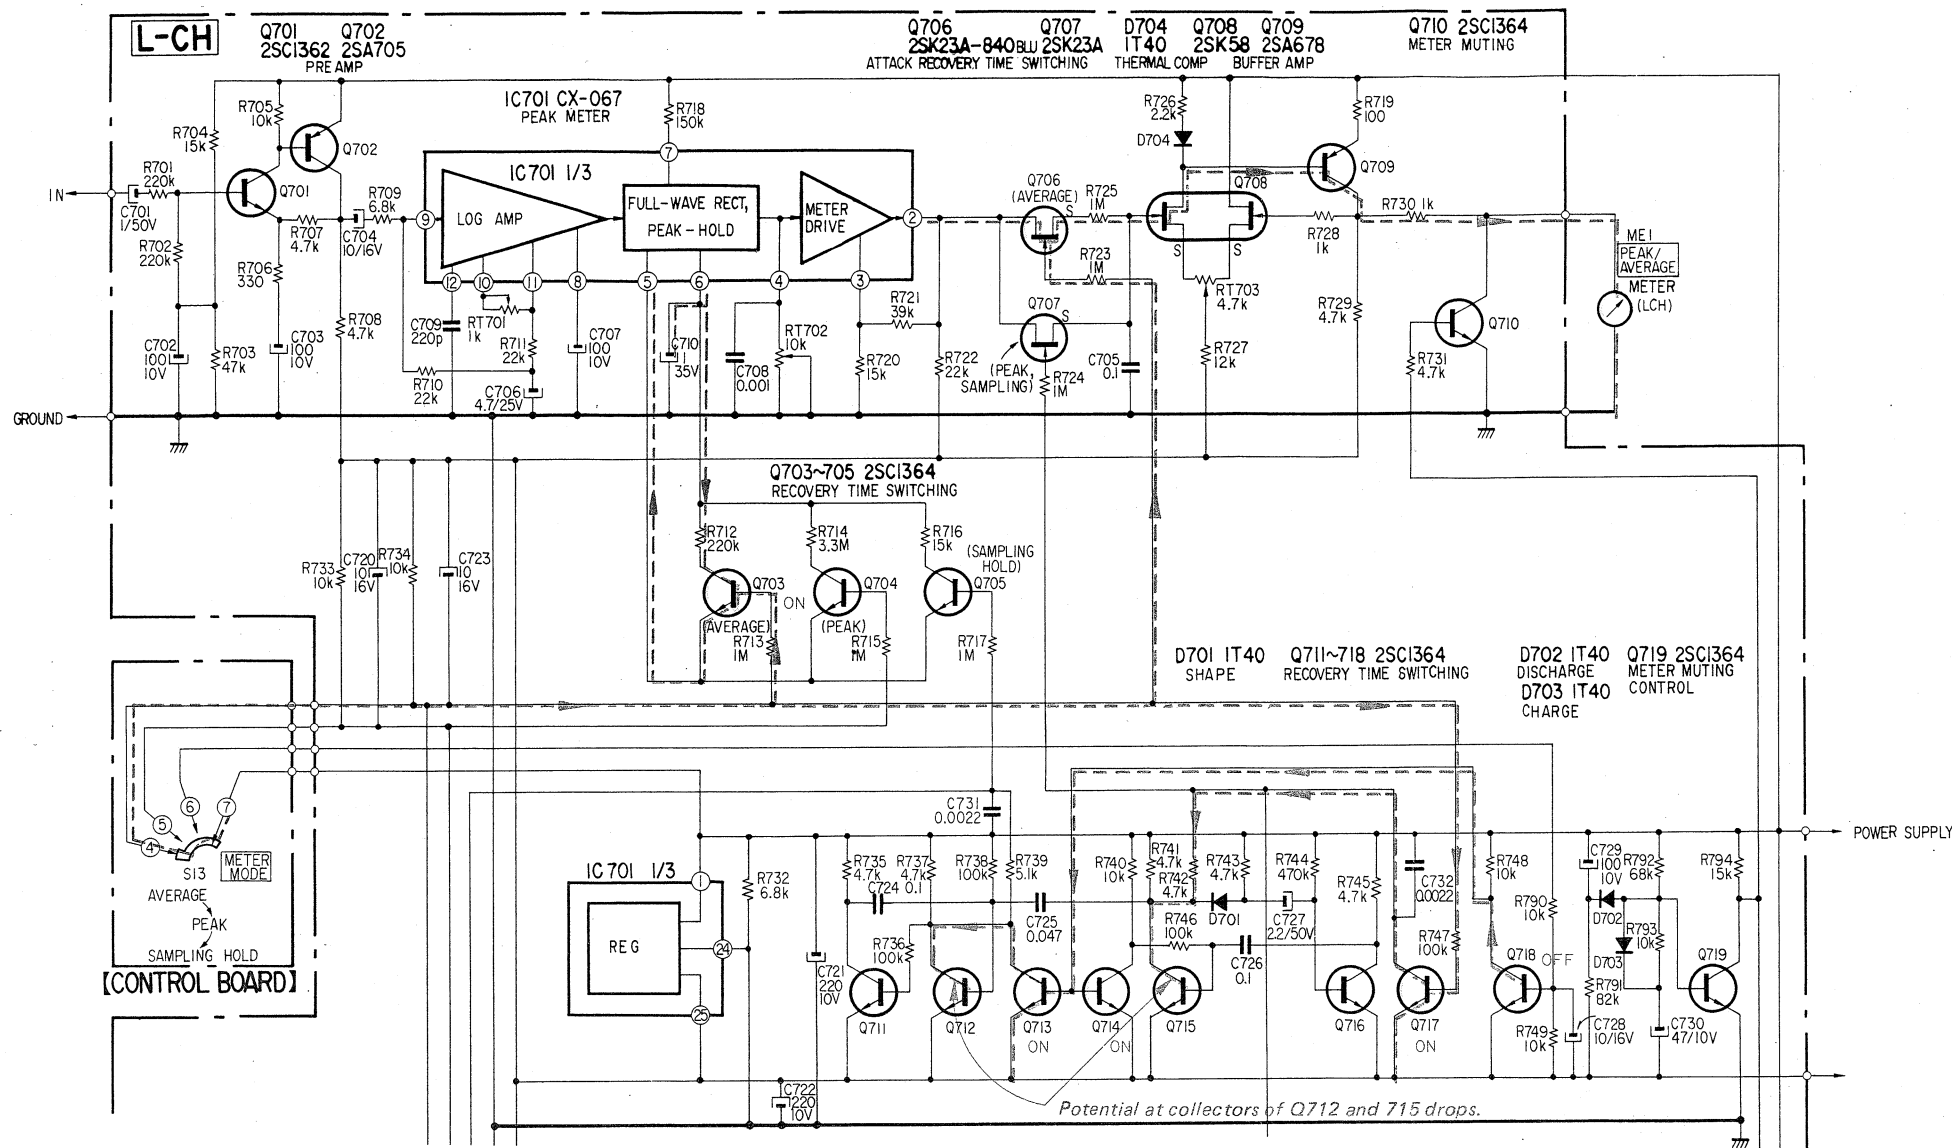
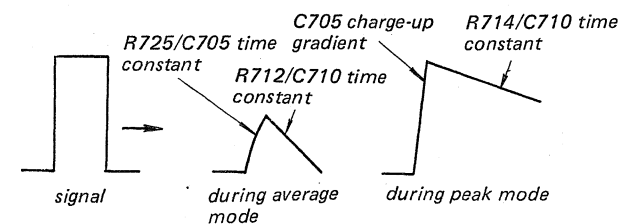
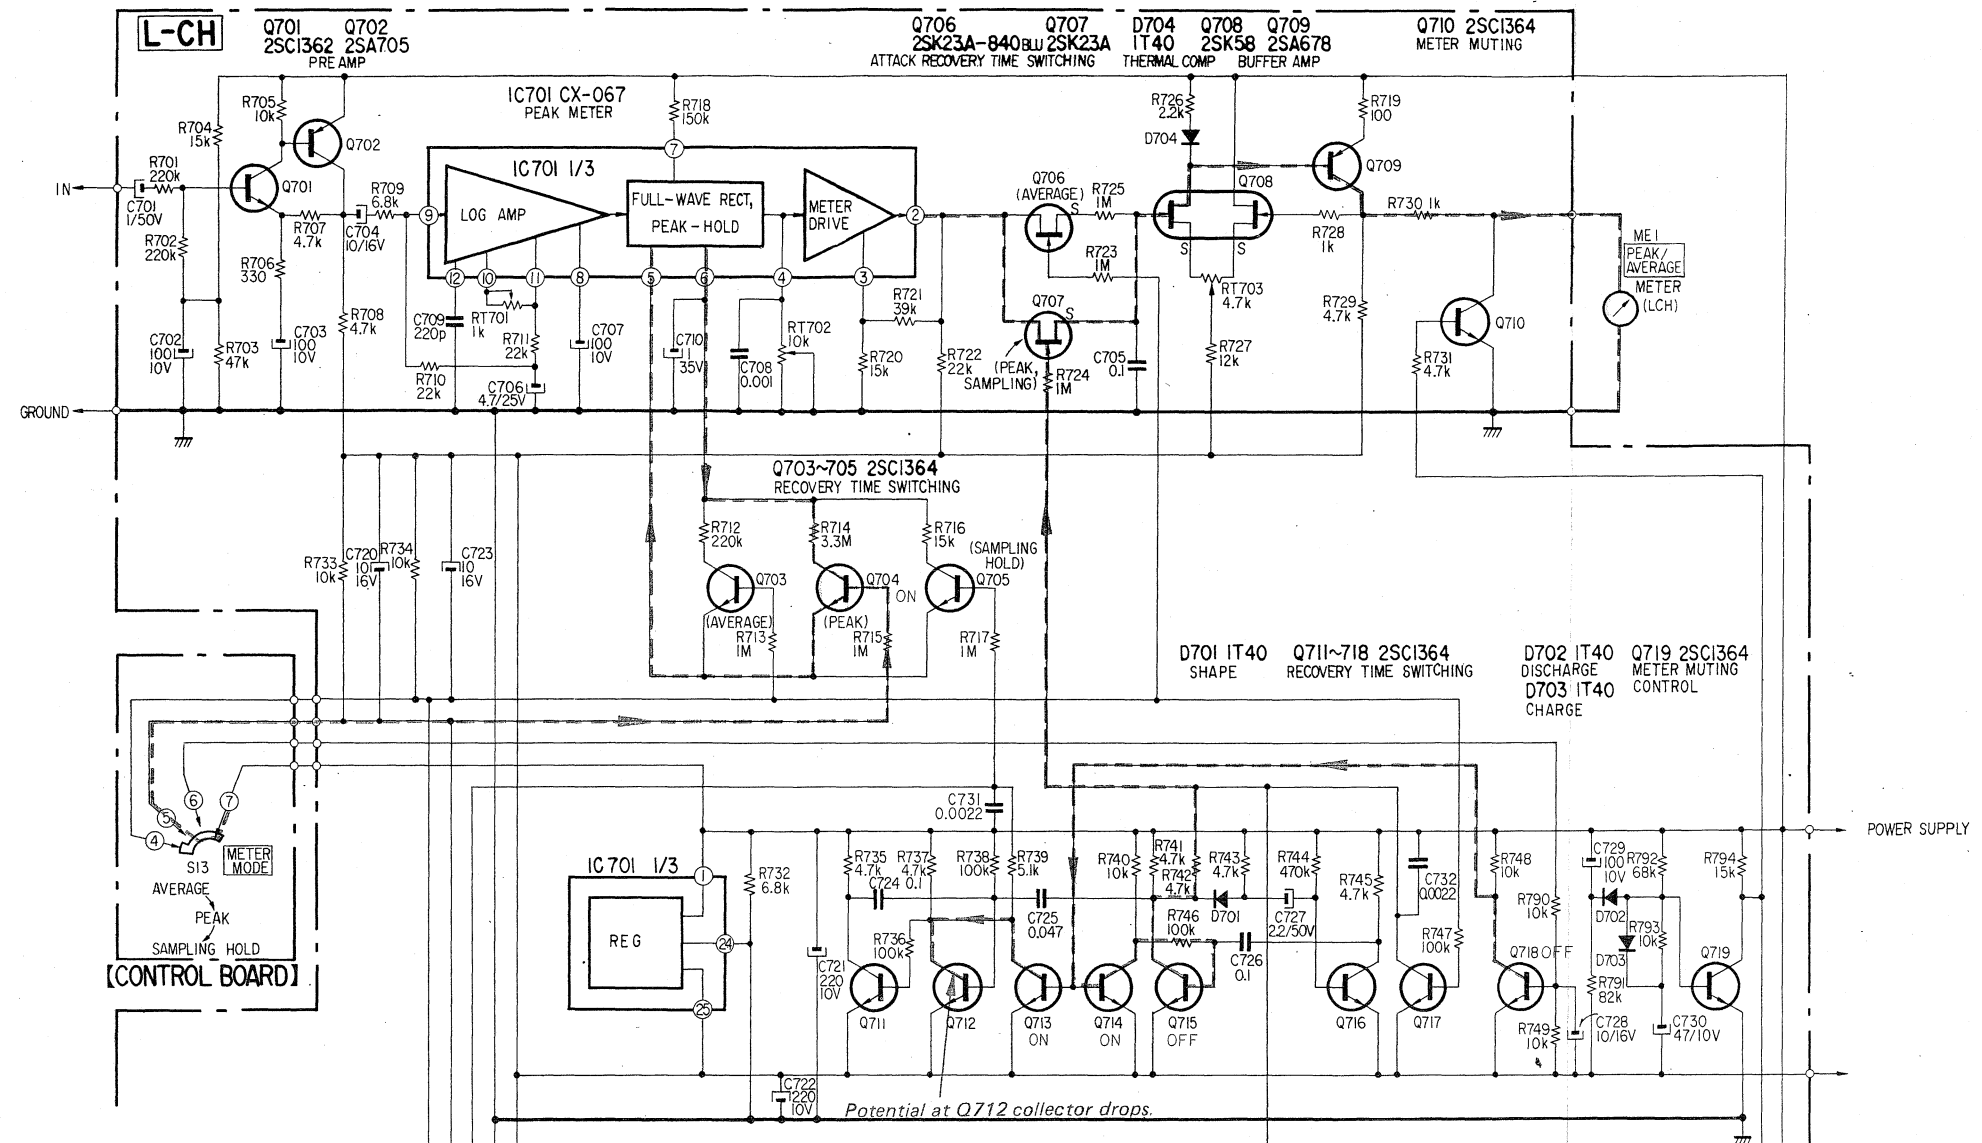

Fig. 1
Fig. 3
Fig. 4
1. Preamplifier Circuit (Fig. 1)
2. IC701 (CX-067) and It's Surrounding Circuits (Fig. 1)
- * During peak mode, Q704 is turned on (see Fig. 4), and C710 discharges through R714 (3.3 M Ω) taking approximately five times longer than during average mode (see Fig. 3).
- * During average mode, Q703 is turned on (see Fig. 1), and C710 discharges relatively rapidly through R712 (220 k Ω) (see Fig. 3).
- * During average mode, Q706 is turned on (Fig. 1) and current passed through R725, charges C705. Charge-up time is thus determined by the C705/R725 time constant. (Fig. 3).
- * During peak mode, Q707 is turned on (Fig. 4), but since there is no resistor connected in series, C705 will charge up immediately (Fig. 3).